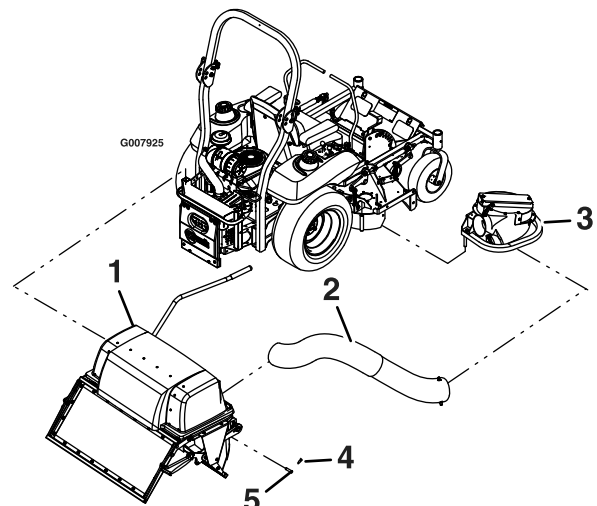

Figure 5
3. Slide tube ends of hopper assembly into the tubes of the mount weldment (see Figure 5). Install two clevis pins through holes in tubes. Retain with two hair pins.